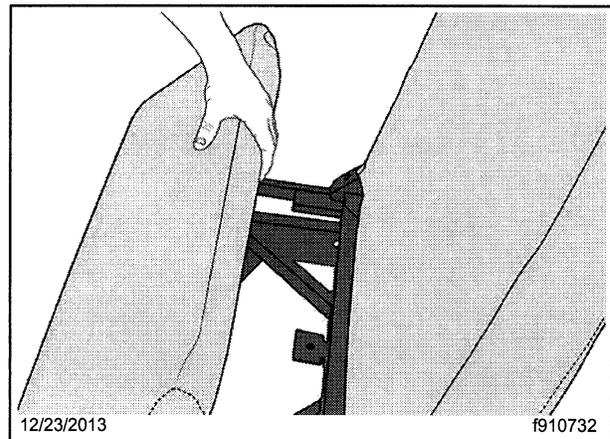

Fig. 5, Lifting Up the Bottom Cushion
2. Lift up the back of the cushion to gain access to the buckle mounting. See **Fig. 5**.